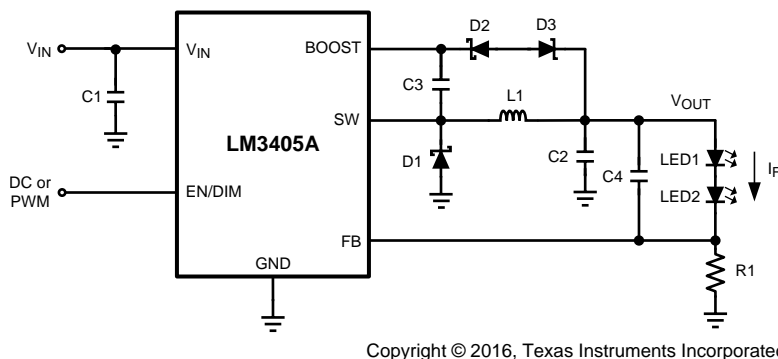

**Figure 28. LED MR16 Lamp Application ( $V_{IN} = 12\text{-V AC}$ ,  $I_F = 0.75\text{ A}$ ) Diagram**
**Table 7. Bill of Materials for Figure 28**